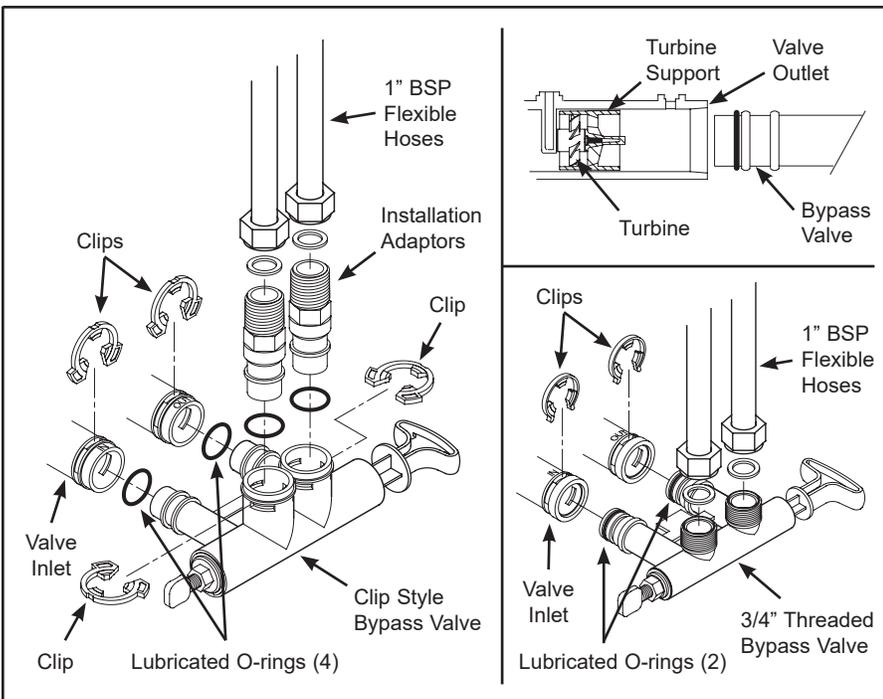

FIG. 5
a. If installing an **EcoWater Systems Bypass Valve**, put lubricated o-ring seals onto both bypass valve ports (See Figure 5). Carefully slide the bypass valve into the conditioner/refiner valve and install the "C" clips.
b. Connect flexible hoses to the bypass valve (See Figure 5).